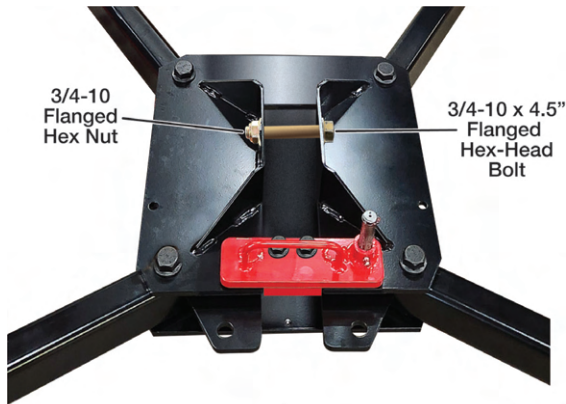

Figure 6-5: Removing Flanged Hex-Head Bolt and Nut
7. Remove the pre-installed 3/4-10 x 4.5" flanged hex-head bolt and 3/4-10 flanged hex nut from the base (see Figure 6-5).